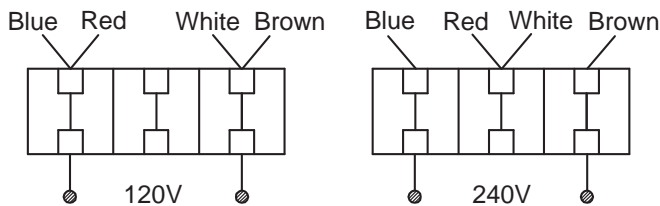

Figure 6 – Wiring diagram.
- Motor and wires are installed as shown in wiring diagram (See Figure 6). Motor is assembled with approved, 3-conductor cord to be used at 120/240 volts. Motor is prewired at the factory for 120 volts.